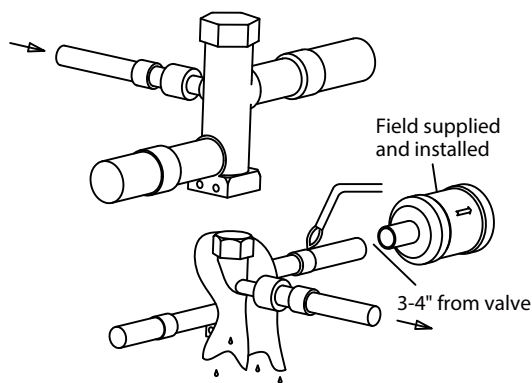

Figure 8-4
4. Wrap a wet rag around the valve body to avoid heat damage and continue the dry nitrogen purge (Fig. 8-4). Braze the refrigerant lines to the service valves.